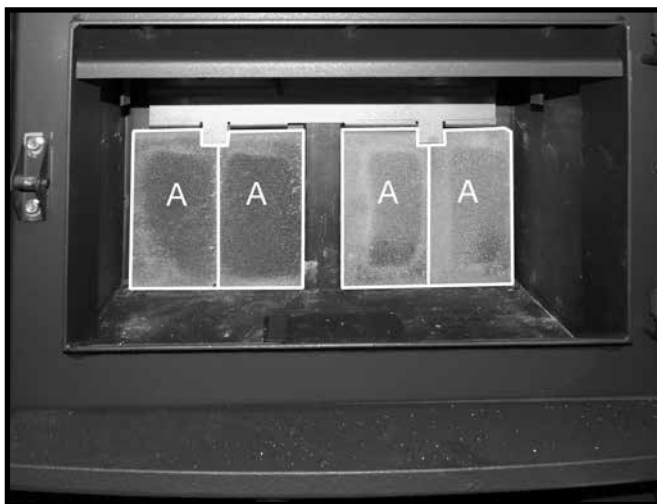

Figure 8. Remaining rear wall firebricks in place.
3. Repeat steps 1 & 2 for the placement of the other "A" firebricks on the rear wall Figure 8.